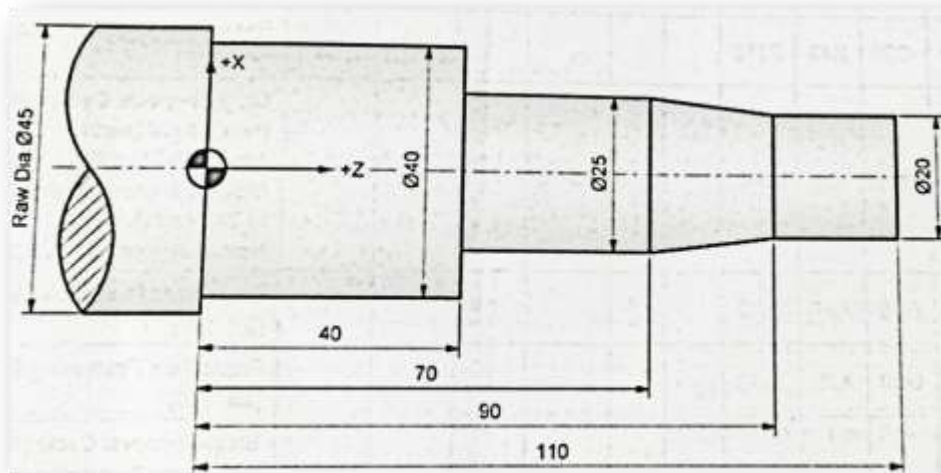

Figure 1
- Q.2 (a) Write a manual part program for the turning component shown in fig. 1. Raw material is MS $\Phi 45 \times 150$ mm, Spindle speed $S = 400$ RPM and Feed $F = 0.25$ mm/rev. 07